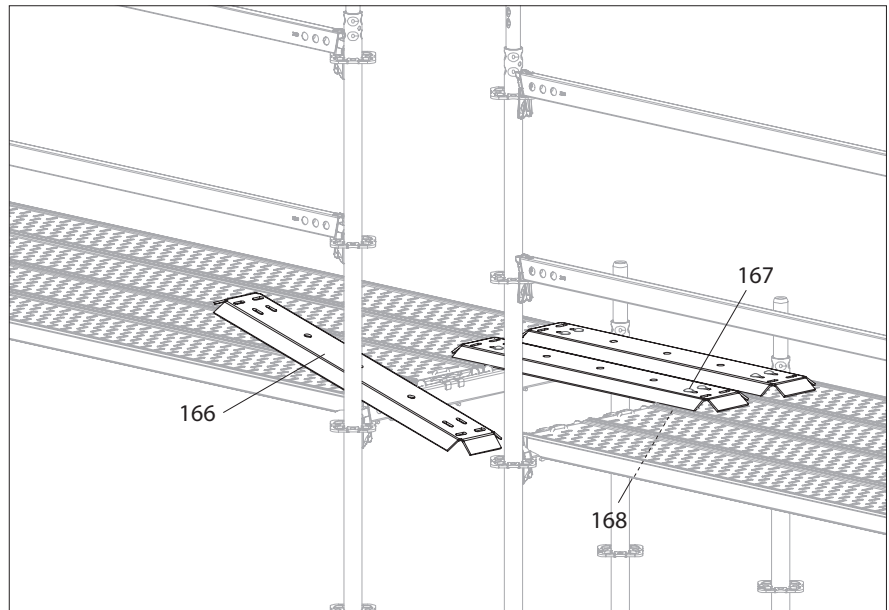

Fig. A7.05a
2. Place the cover plate (166) on the bridging area.
3. Insert the flat round screws M10x60 (167) through the existing holes or slots from above and tighten with nuts M10-8-VZ-SW17 (168).
- The screw connection can be made through any hole or slot. (Fig. A7.05a)